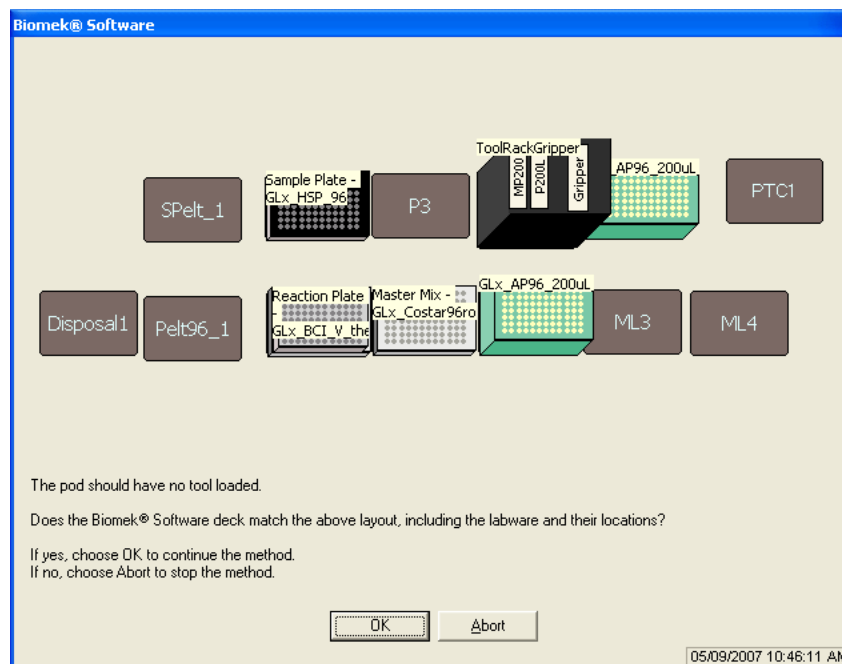

Figure 1-18. Deck confirmation prompt for Reaction Setup method
- The GeXP splash screen appears, followed by Deck Confirmation (Figure 1-18).